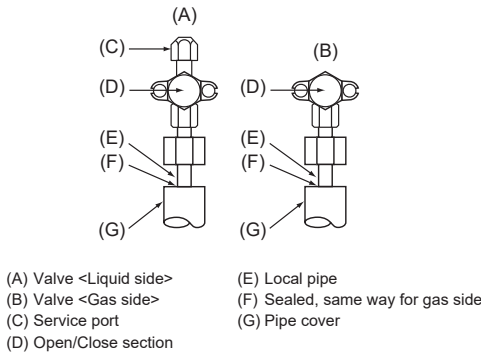

Fig. 4-4
4.4. Refrigerant pipe airtight testing method (Fig. 4-4)
- Make sure the valves (A) (B) are closed and do not open them.
- Add pressure to the refrigerant lines through the service port (C) of the liquid valve (A).
- If the pressure decreases in steps (2) or (3), there is a gas leak. Look for the source of the gas leak.